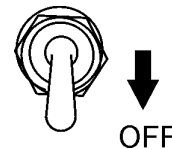

Figure 27. Idle Control switch (OFF)
- Place idle control switch (Figure 27) in the **OFF** position.